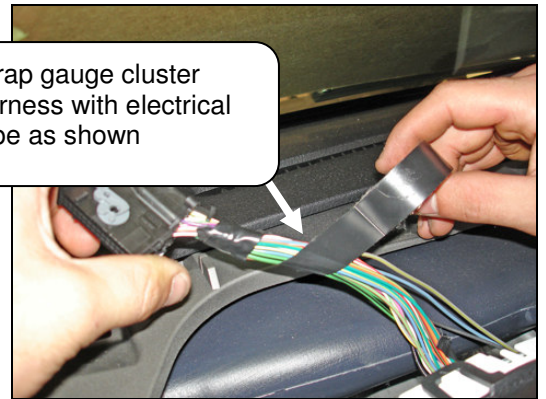

Figure 9
9. Wrap the gauge cluster harness with electrical tape as shown (see Figure 9).